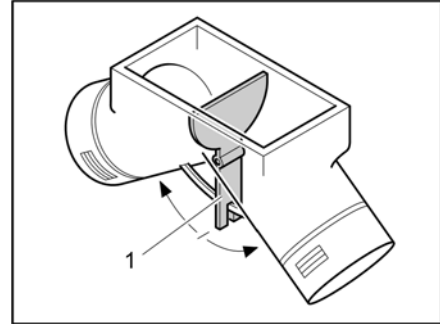

Fig. 112 Circulation fan, adjustment flap in central position
In the central position the warm air is distributed evenly to each warm air outlet. The operating lever (Fig. 112,1) for the adjustment flap is located under the base flap in the wardrobe.
- Push the operating lever (Fig. 112,1) in the direction of the arrow until the required position has been reached.